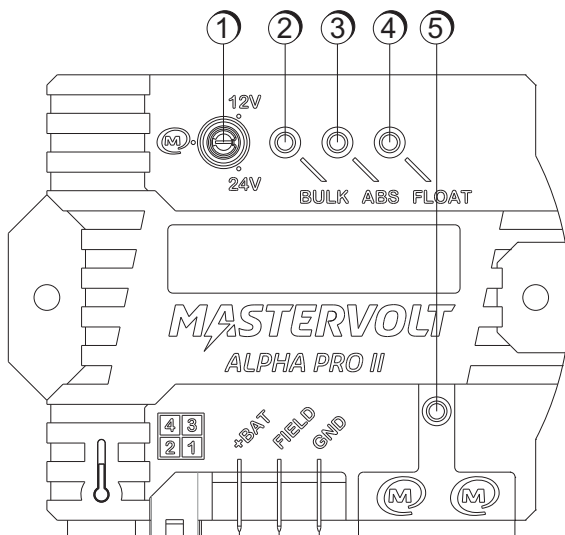

Figure 15: Overview of the Alpha Pro II regulator
- 4 The yellow [bulk] LED on the Alpha Pro II regulator (see figure 15) illuminates, indicating that the charge-cycle begins.